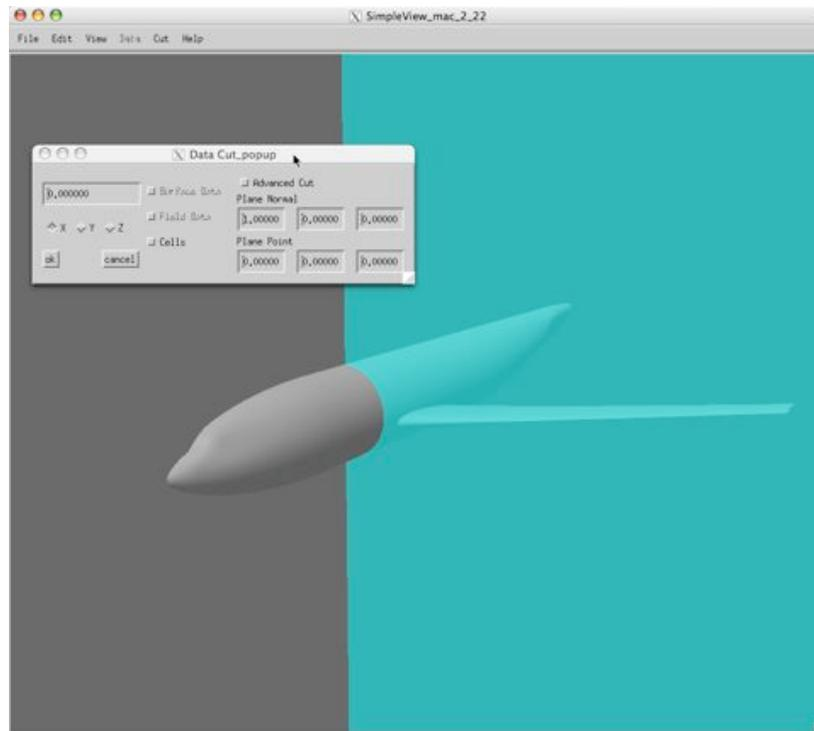

Figure 2.5.1 The Data Cut Pop-up Menu : specifying the cutting plane location
2. Select the “Define New Cut...” option from the “Cut” panel. The “Data Cut Popup” window will appear, and, by default, **SimpleView** will display a transparent blue plane at the $x=0$ location, as shown in Figure 2.5.1.
To extract the flow quantities, you begin by defining a plane in the same way that you would do so in order to perform a volume grid cut (as shown in Figure 2.5.1)—by selecting the “Define New Cut” option from the “Cut” panel. Then, click on the “Surface Data” button in the Data Cut dialog box (as shown in Figure 2.6.7(a)) before or after specifying the location of the plane. As with the volume grid cuts, the cutting plane can be a constant-coordinate plane, or an “advanced” cut specified by providing a coordinate on the plane, and the components of the plane normal.